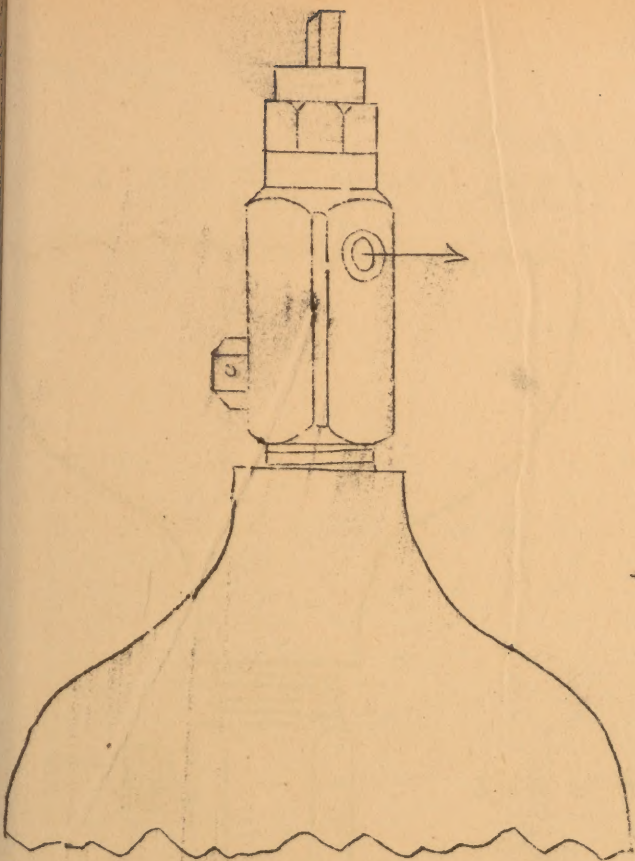
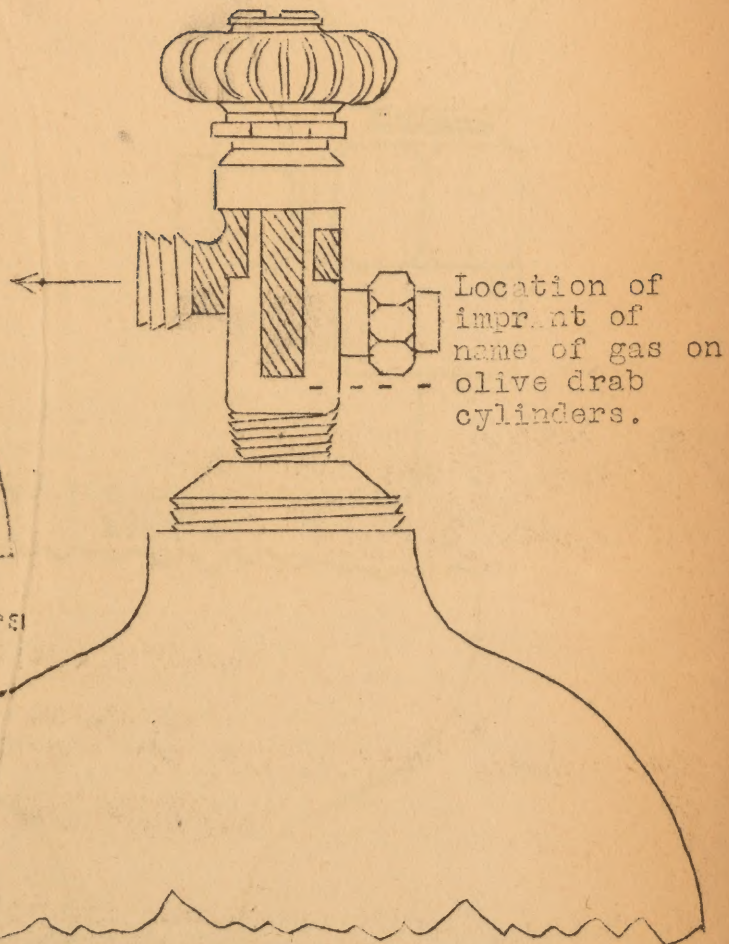

Fig. 1
Fig. 2
a. Origin of cylinders can be ascertained by recognition of the typical American types of valves on large and small cylinder valves on all of these cylinders deliver from the side. The outlet of the valve on small cylinders (Fig. 1) is flush with the face of the valve, while the outlet of the larger cylinders projects and is threaded (Fig. 2). Threaded outlets may be of two sizes - one on the so-called medical cylinders and a slightly larger outlet on commercial cylinders. Identification may be made by the flat surface of the valve outlet on medical cylinders and by the cup-shaped surface of the valve outlet on commercial cylinders.
- (1) The valve outlet threads of non-combustible gases are right hand.
- (2) The valve outlet threads of combustible gases are left hand.
- (3) The fittings are therefore not interchangeable.